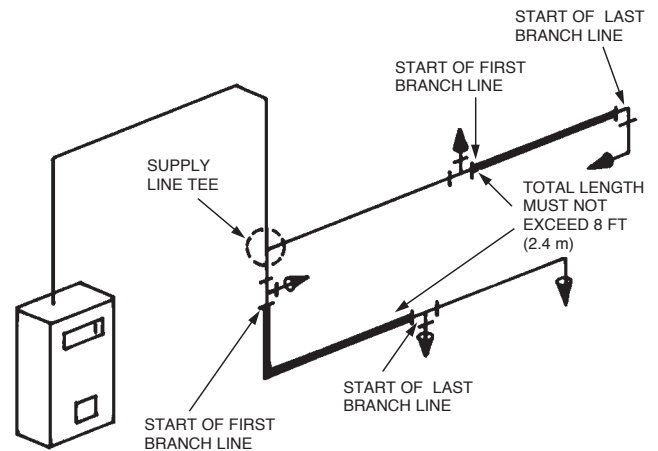

FIGURE 4-158
4. The pipe length between the start of the first branch line and the start of the last branch line must not exceed 8 ft (2.4 m). When the supply line is split, the **combined length** of both legs of the supply line, start of first branch line to start of last branch line, must not exceed 8 ft (2.4 m). See Figure 4-158.